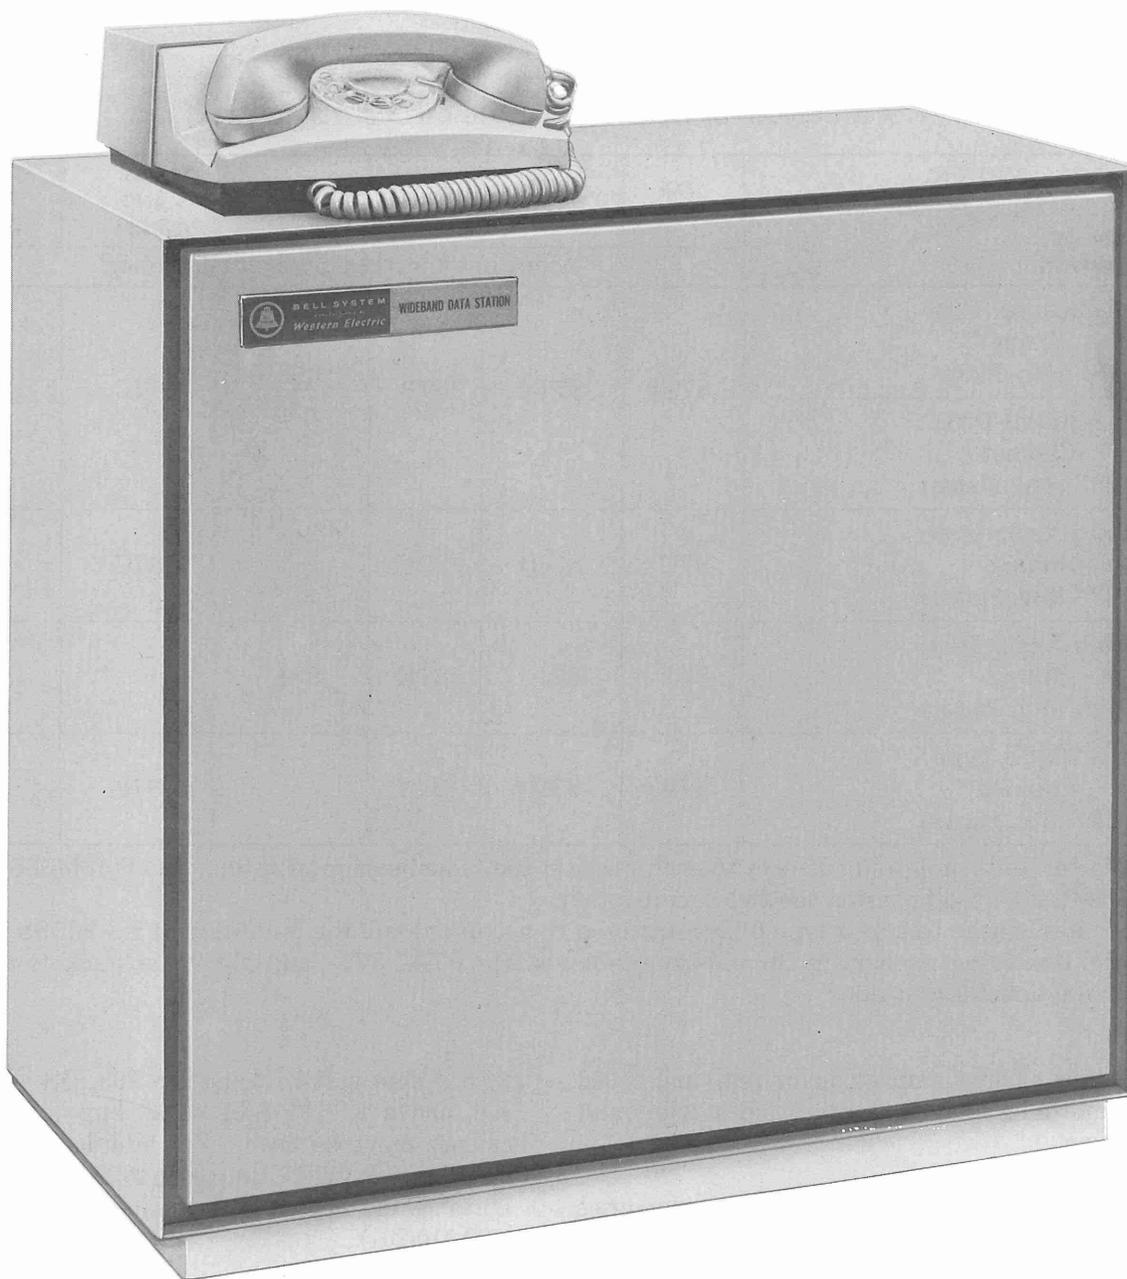

Fig. 1—Wideband Data Station Cabinet Using Data Set 303-Type
2.03 The cabinet (Fig. 1) should be located within range of the interface cable which is to be supplied by the customer. This cable should not exceed 50 feet in length. The cabinet should be